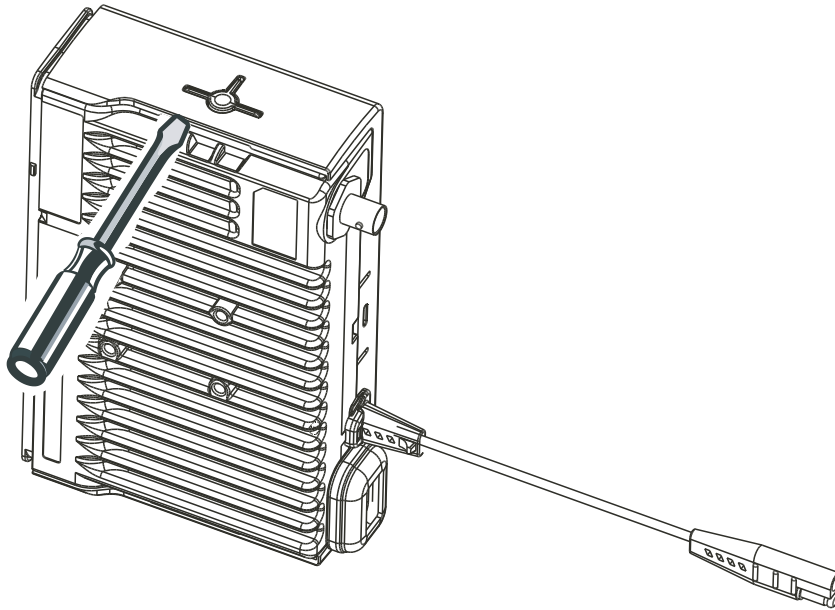

Figure 2-4 Top Cover Removal (Chassis Vertical).
1. Place the radio in a vertical position as shown in Figure 2-4.